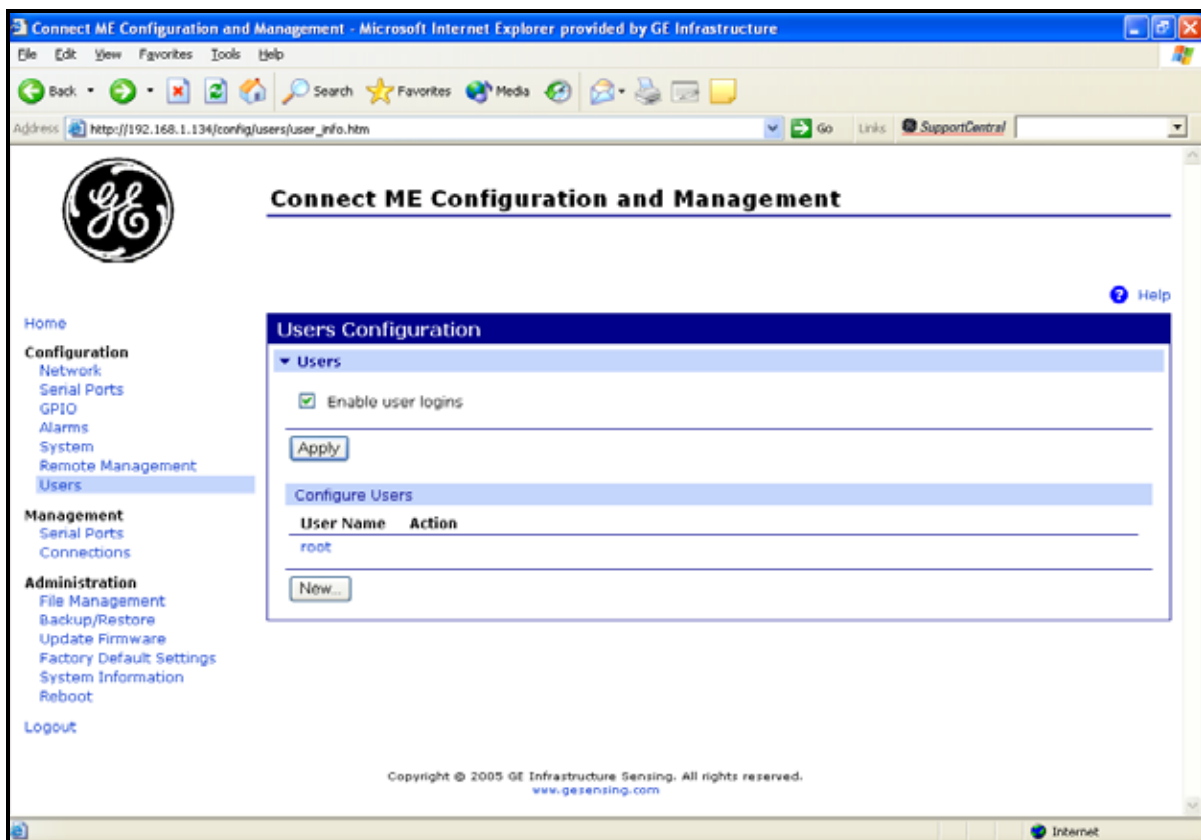

Figure 24: User's Configuration Menu
3. Click on **Login**. Figure 24 appears.